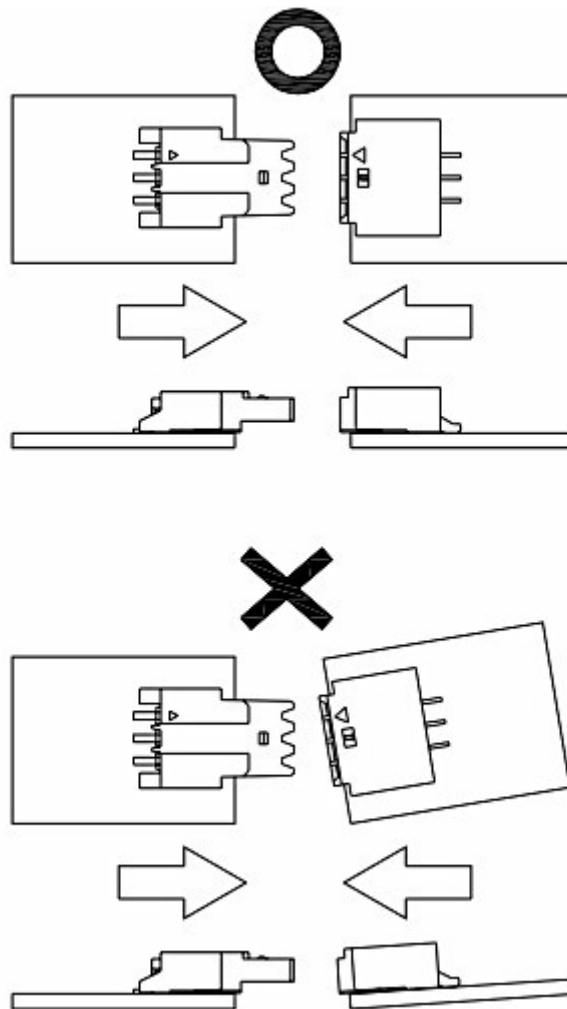

Fig. 3-1-2
- Please make sure the connectors direction are both straight while you are mating it, until they strike each other. If you mating at an angle, that might cause the transformation of terminal and housing etc. (Fig.3-1-2)